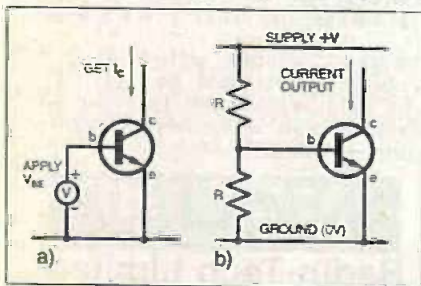

Fig.1. The bipolar junction transistor (b.j.t.) as a current source; (a) transistor as a current source and (b) possible circuit based on (a).
b.j.t. constant we get a constant collector current, so the collector is the output of a current source (see Fig.1).
Fig.2. Illustrating the Current Mirror, which takes a current and produces a copy of it. (a) "Push" a current into the collector and (b) combine Fig.1 (TR2) and Fig.2(a) and we get a current mirror. This is a very important application in analogue integrated circuit design.